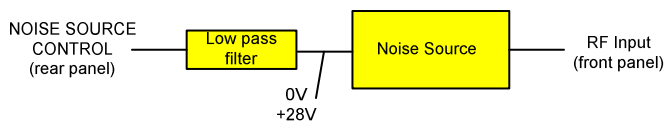

Fig. 2-73: Preparation for calibration
- Connect the noise source to the RF input of the R&S FSL (see Fig. 2-73).
- Provide the voltage supply for the noise source by connecting it to the +28 V connector of the R&S FSL (labeled NOISE SOURCE CONTROL on the rear panel of the instrument) via a coax cable and the lowpass filter. Connect the lowpass filter between the noise source itself and the NOISE SOURCE CONTROL connector of the R&S FSL as shown in Fig. 2-73.